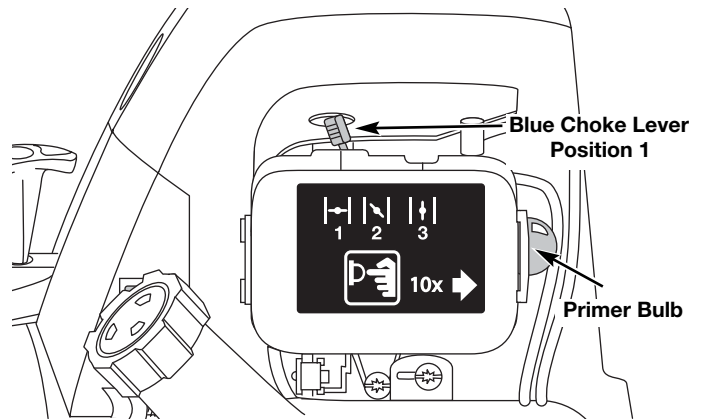

Fig. 7
4. Fully press and release the primer bulb 10 times, slowly. Some amount of **fuel should be visible in the primer bulb** and fuel lines (Fig. 7). If you can't see fuel in the bulb, press and release the bulb as many times as it takes before you can see fuel in it.
5. Place the blue choke lever in **Position 1** (Fig. 7).